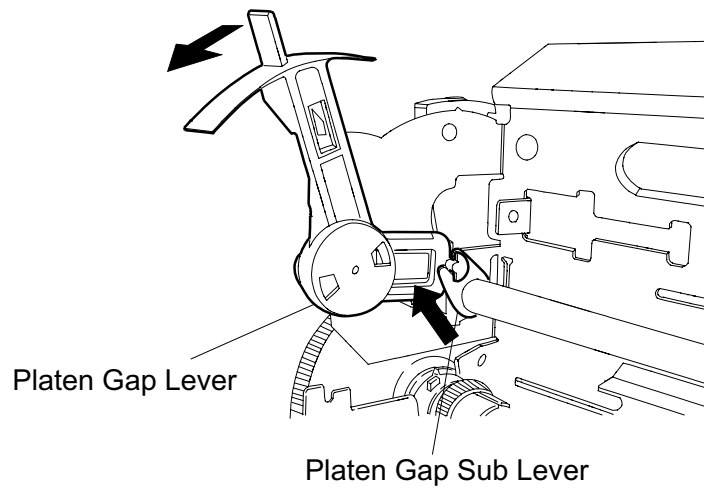

Figure 3-49. Engaging the PG Sub Lever
- When installing the platen gap sub lever onto the CR shaft, insert the side marked with an "O" out, set the platen gap lever to 0, and engage the platen gap sub lever notch with the platen gap lever by slipping it upward. (See Figure 3-49.)
- Fit the groove on the upper edge of the CR assembly to the top edge of the top frame. (See Figure 3-49.)